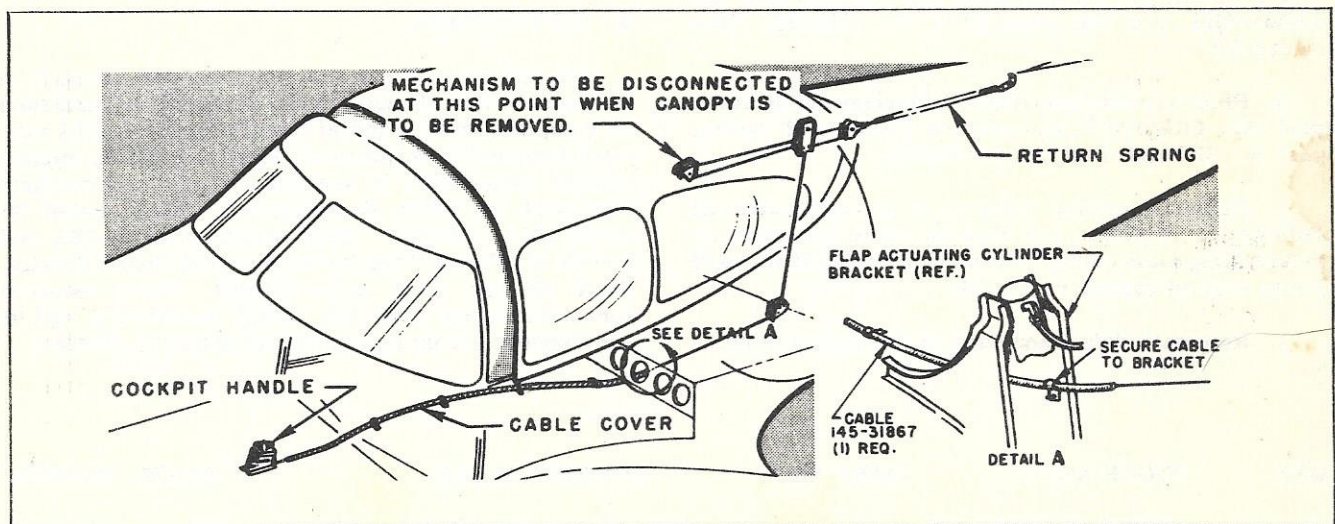

Figure 1
c. Install new assist cable assembly, part No. 145-31867, rerouting as shown in figure 1. Reinstall center